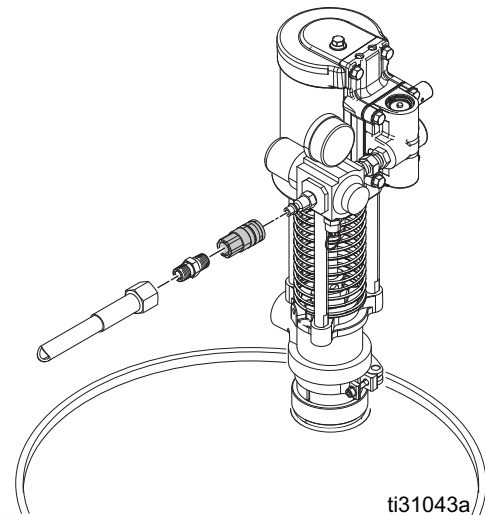

FIG. 9
5. Install air line (3/8 in. (76 mm) ID minimum) with quick disconnect air coupler provided. See FIG. 9.